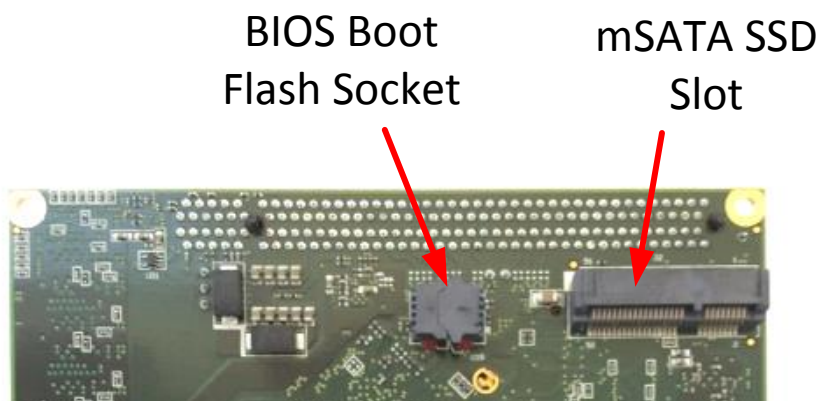

Figure 8 – BIOS boot flash socket location
2. Open socket at location U19 and remove SPI flash. See Figure 8 for location.